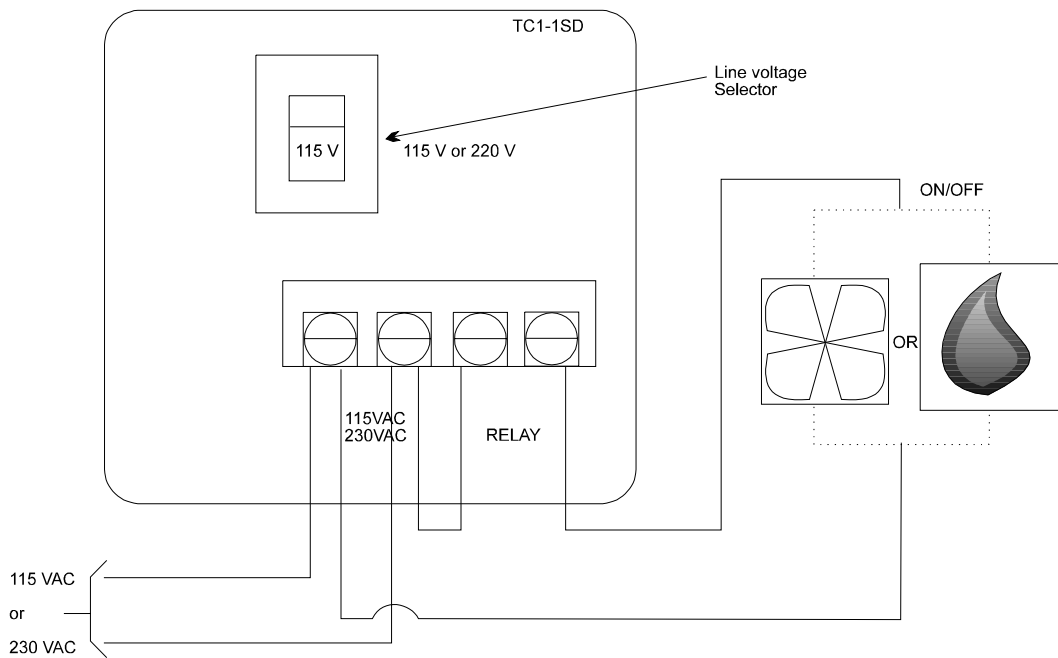

Figure 5 : Wiring when the TC1-1SD and the heater use the same power source
- For typical hook-up, refer to figure 5 or 6.